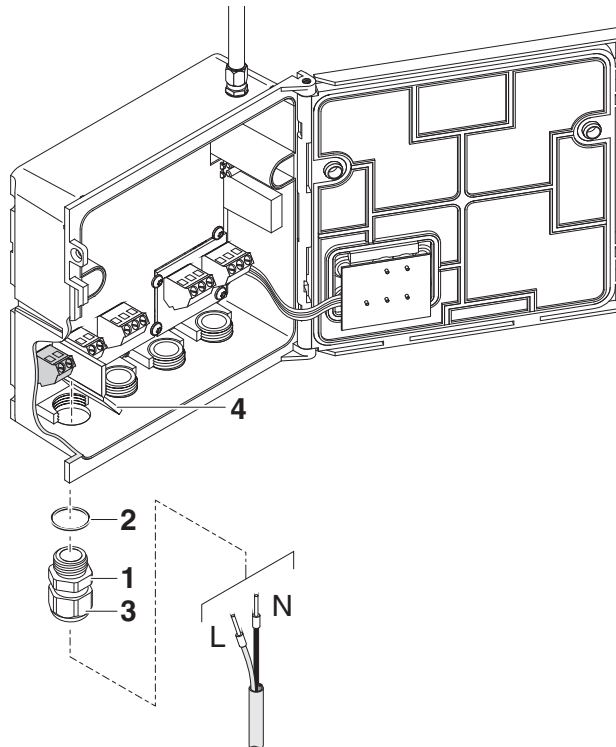

Fig. 3-12 Inserting the supply line.
| 6 | Screw a cable gland (pos. 1 in Fig. 3-12) with sealing ring (pos. 2) into the enclosure below the power supply connection. |